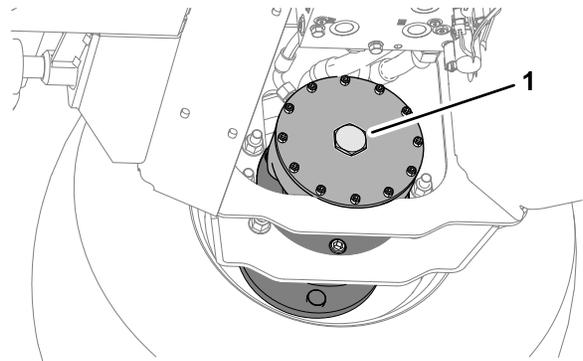

Figure 35
5. At the right, front wheel motor brake assembly remove the hex plug (Figure 35).